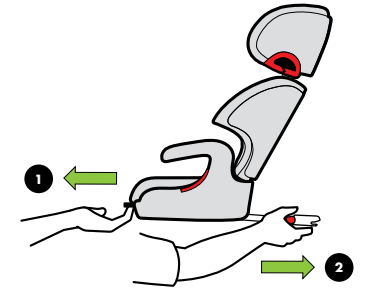

Figure 14
To connect to lower anchors, pull and hold Recline Handle on front of booster Seat Base ① and pull LATCH Connectors out ②, as shown in **Figure 14**. Release Recline Handle.